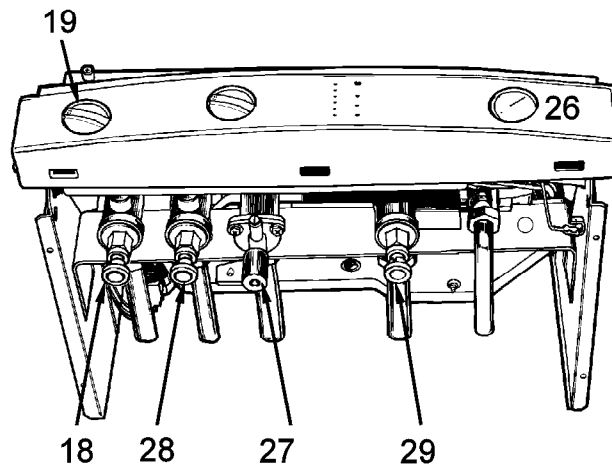

Fig. 18
- Open flow and return valves on the boiler (28 & 29 Fig. 18)
- Turn on the gas supply and boiler gas tap (27 Fig. 18).